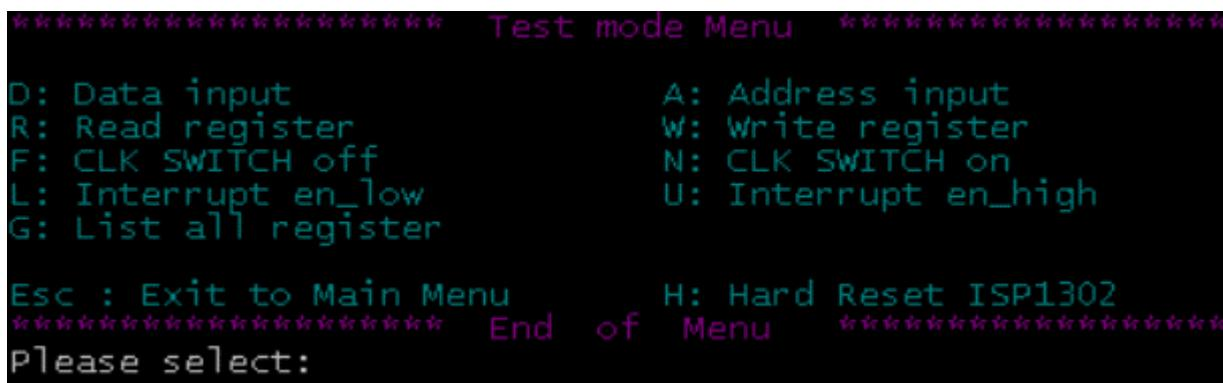

Fig 4. Test mode submenu
- When the **T** key is pressed, a submenu will appear on the screen. See Fig 4. The program will work in test mode.